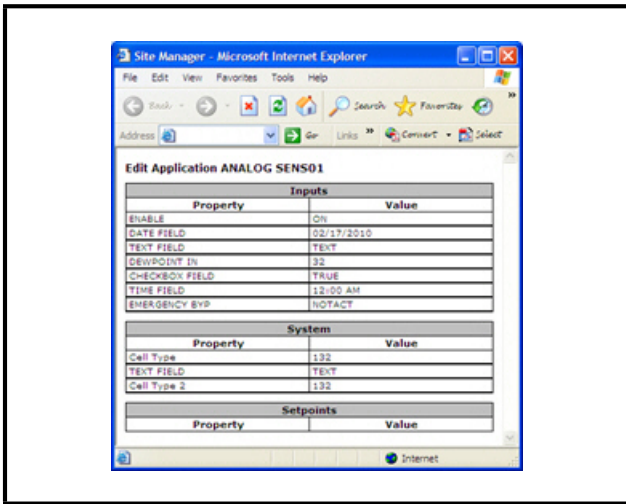

Figure 5-27 - Print Edit Application Instance Page
- **Print Current Tab/Print All Tabs**: The print buttons beneath the window give you the ability to print point information. If a print button is clicked, all point information shown will show in a new window. Click **Print Current Tab** to print the information that is related to the tab you are currently viewing, or click **Print All Tabs** to print all the available point information in all tabs. An example of a print output is shown in **Figure 5-27**.